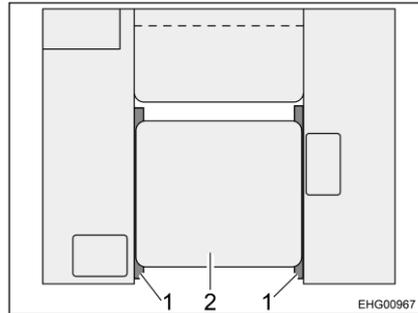

Fig. 66 Furniture layout of rear seating group
- Lower the table until the table top (Fig. 66,2) rests on the support bars (Fig. 66,1) of the two lateral benches (the seat cushions may have to be removed for this purpose).